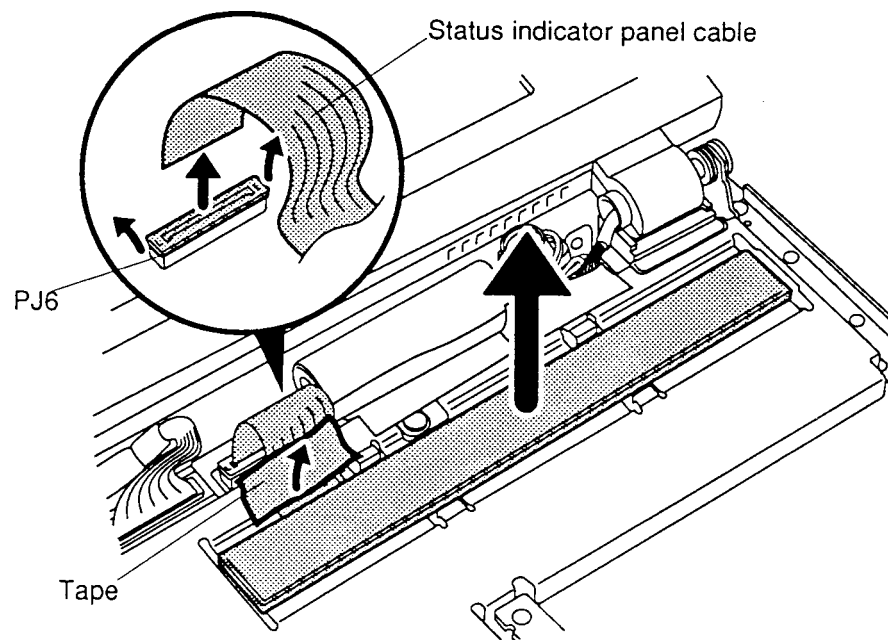

Figure 4-16 Removing the status indicator panel
To remove the T4700CS/T4700CT/T4800CT's status indicator panel, follow the steps below and refer to figure 4-16.
4. Disconnect the **status indicator panel cable** from **PJ6** on the upper system board and lift the panel out of its brackets (figure 4-16).
To install the T4700CS/T4700CT/T4800CT's status indicator panel, follow the steps below and refer to figures 4-16.
1. Connect the **status indicator panel cable** to **pressure plate connector (PJ6)** on the upper system board (figure 4-16).
2. Set the **status indicator panel** in the upper system board cover, making sure it is seated securely in its brackets. Note that a fold is not built into the **status indicator panel cable**. Let the cable bend naturally when you seat the panel; do not try to fold the cable (figure 4-16).